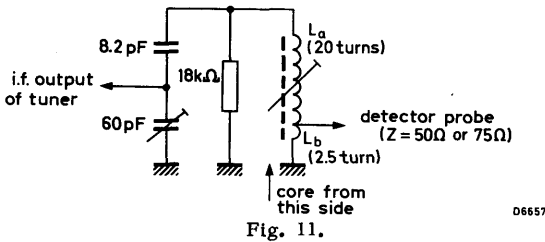
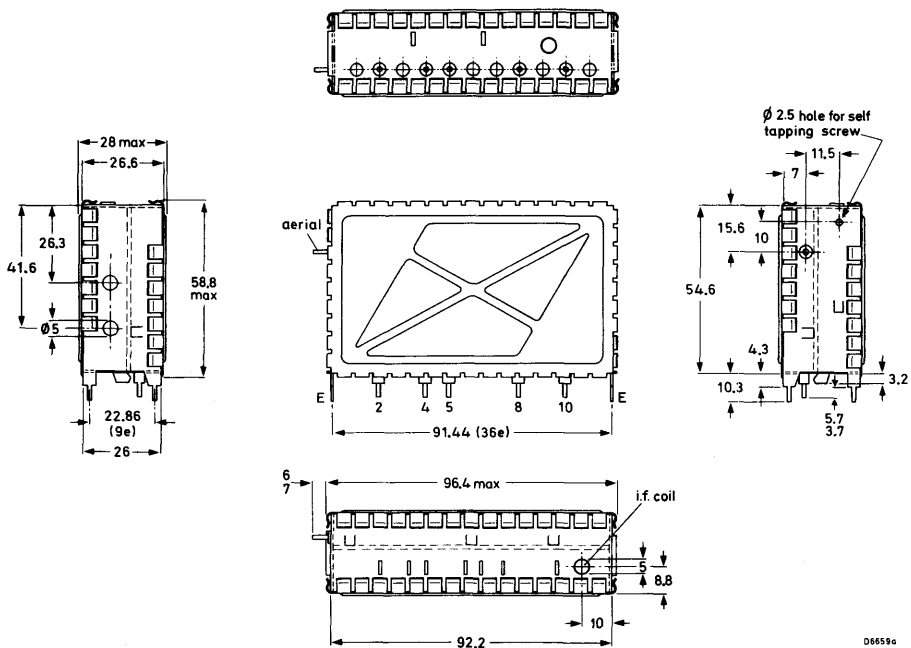

Fig. 11.
Fig. 1.
3. Adjust the trimmer (Fig. 11), tunable coil La/Lb, i.f. output coil of the tuner L18 (Fig. 1), and the coupling between La and Lb to get the resonant curve as given below.
Mechanically, the tuner is built on a low-loss printed-wiring board, carrying all components, and housed in a metal case consisting of a rectangular frame and front and rear covers (see Fig. 1). The aerial connection is on the frame side, and all other connections (supply voltages, a.g.c. voltage and tuning voltage) are made via feedthrough capacitors in the underside. The mounting method is described below.